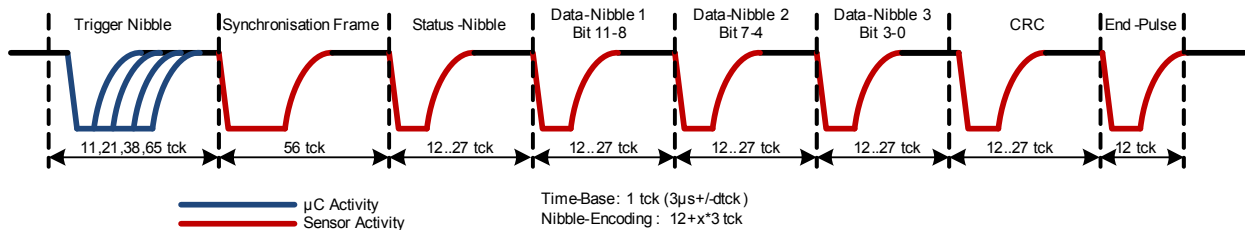

Figure 25 SPC frame example
As in SENT, the time between two consecutive falling edges defines the value of a 4-bit nibble, thus representing numbers between 0 and 15. The transmission time therefore depends on the transmitted data values. The single edge is defined by a 3 Unit Time (UT) low pulse on the output, followed by the high time defined in the protocol (nominal values, may vary depending on the tolerance of the internal oscillator and the influence of external circuitry). All values are multiples of a unit time frame concept. A transfer consists of the following parts (Figure 25):